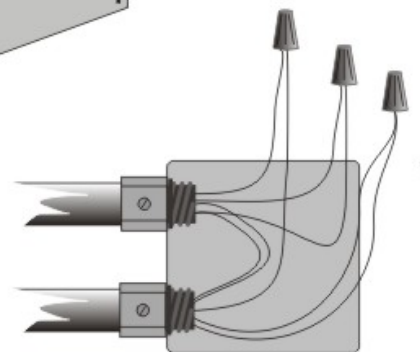

Figure 5
- How many conductors of Figure 5's wire connectors equivalent to? 3 wire connection = 1 conductor
- How many conductors are in Figure 5 to size the box? 2 wire conductors = 1 conductor $\rightarrow 1 + 8$ wires = 9 conductors
- How many conductors are Figure 5's wire conductors equivalent to? 1
- If Figure 5's conductors are all 10 AWG, what's the box's minimum size? T23: 10 AWG + 9 wire → 4 inch square - 1 - 1/2 deep